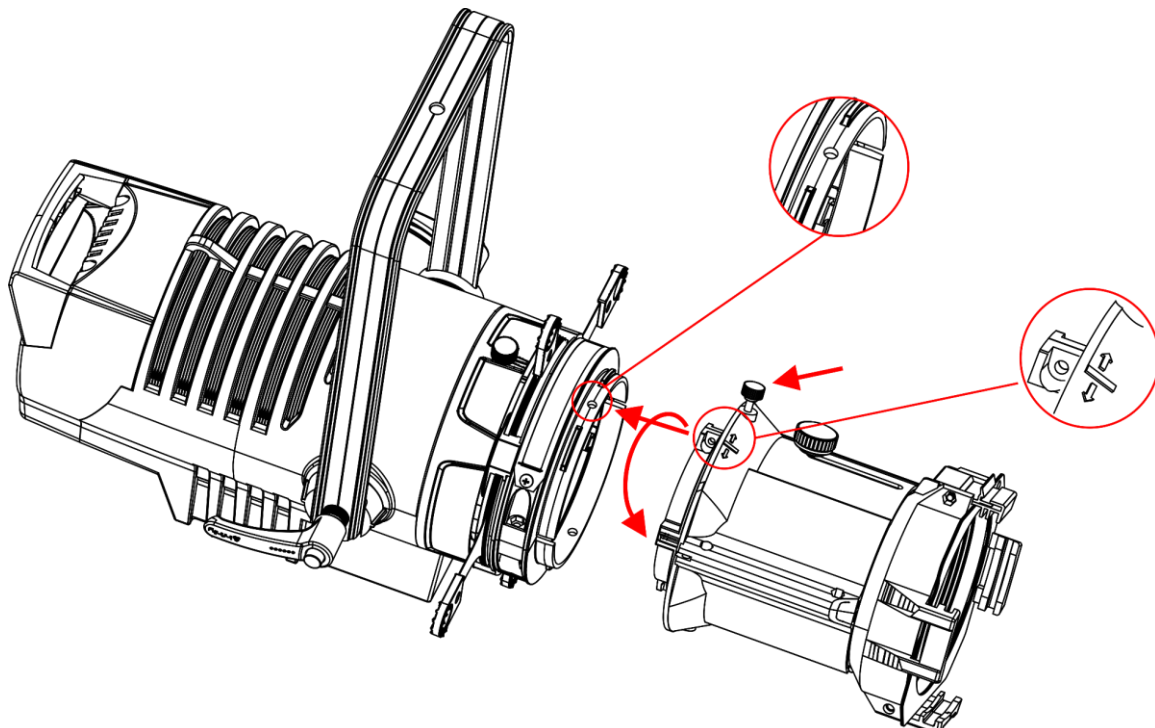

Fig. 05
- 02) Insert the cutout into the slot of the fitting at the marked spot, see figure 05.